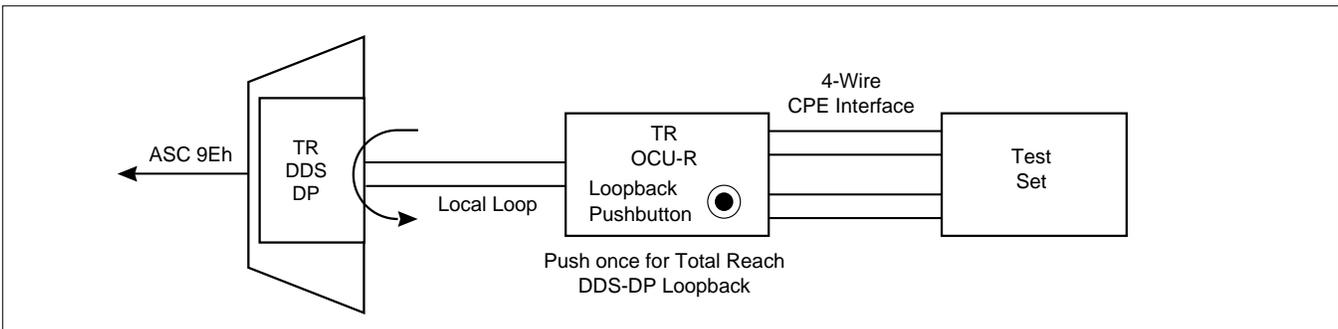

Figure 6. Total Reach OCU-R Remote End Initiated Loopback, Local Loop
- Pressing the TROCU-R LBK pushbutton once will initiate a loopback at the TR DDS-DP towards the customer. See **Figure 6**.
If errors exist the loopbacks can help determine the source; either the local loop or the TROCU-R. During a remote end initiated loopback the Total Reach system transmits ASC 9Eh towards the network, indicating an out-of-service condition generated by the remote end as shown in Figures 6 and 7.